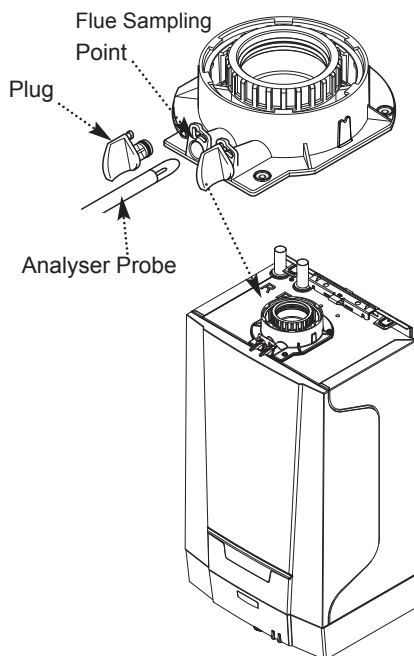

Fig. 35
5. Remove the plug from the flue sampling point (Fig. 35), insert the analyser probe and obtain the CO/CO2 ratio. **This must be less than 0.004.** If the combustion reading (CO/CO2 ratio) is greater than this, and the integrity of the complete flue system and combustion circuit seals has been verified, and the inlet gas pressure and gas rate are satisfactory either:-